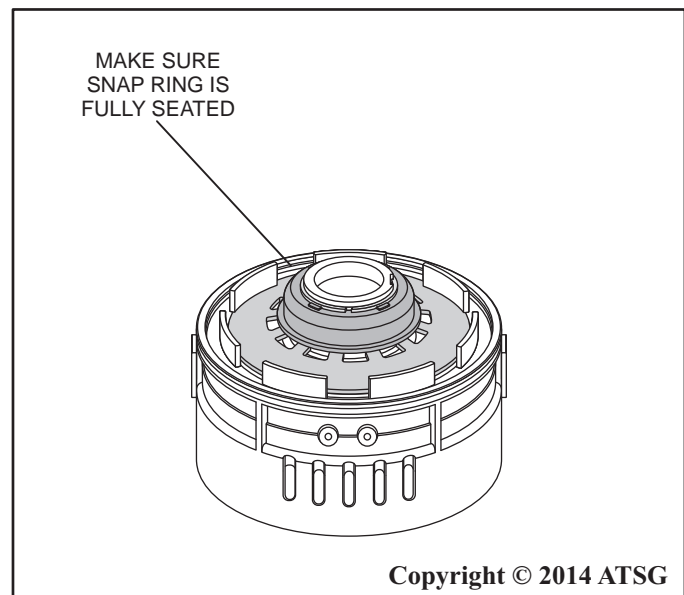

Figure 112
9. Make sure the retaining snap ring is fully seated as shown in Figure 112. Then set the intermediate and low/reverse clutch support housing aside for final assembly.